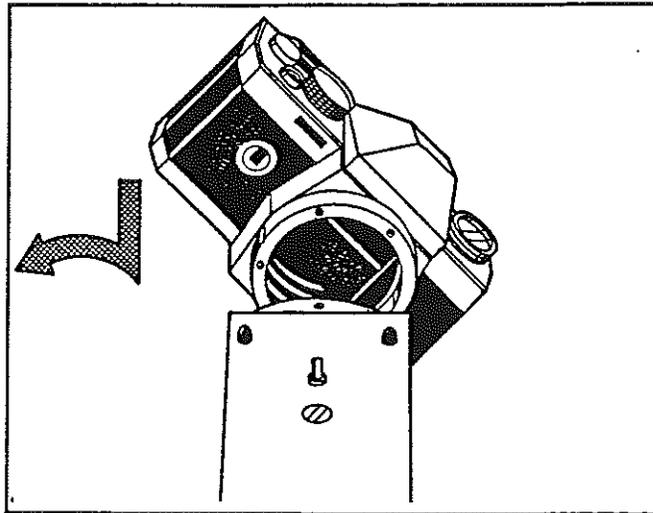

Fig. 7
- (e) Mount a 35 mm SLR camera in place at the rear (Fig. 7). Connect the longer 3 mm coaxial flash lead from the Flash Unit to the camera. Set shutter for Flash. (i.e. 1/60th sec exposure and 'X' synchronisation)